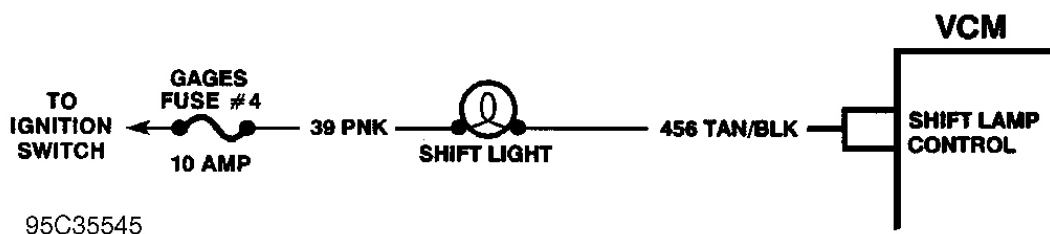

Fig. 3: Typical Shift Light Circuit
4. If shift light does not come on, ground Tan/Black light driver wire at PCM/VCM terminal using a jumper wire. For circuit identification, see SHIFT LIGHT CIRCUIT IDENTIFICATION table. See **Fig. 3**.